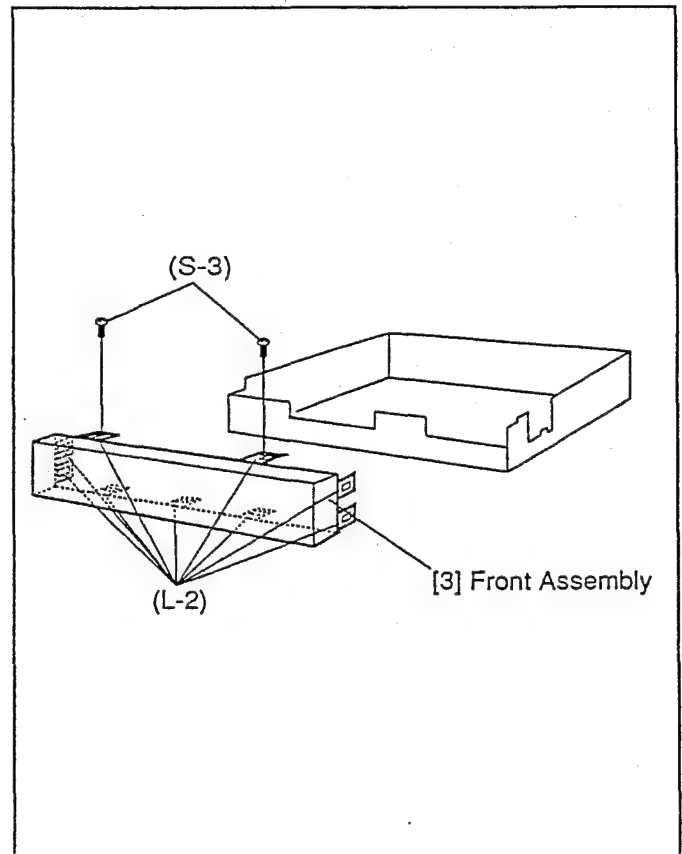

Fig. 3
3. Front Ass'y Removal. (Fig. 3)